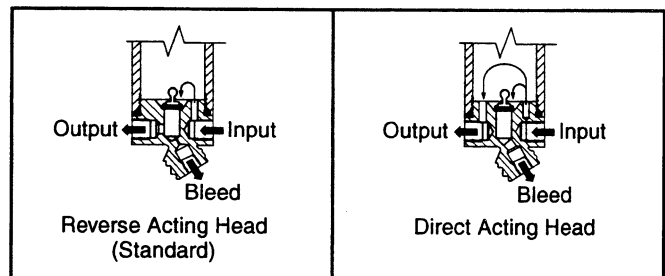

Figure 2
4. When used with the standard head shown in Figure 2, an increase in temperature produces a decrease in output. By plugging the bleed, this head may be used for direct firing of burners.